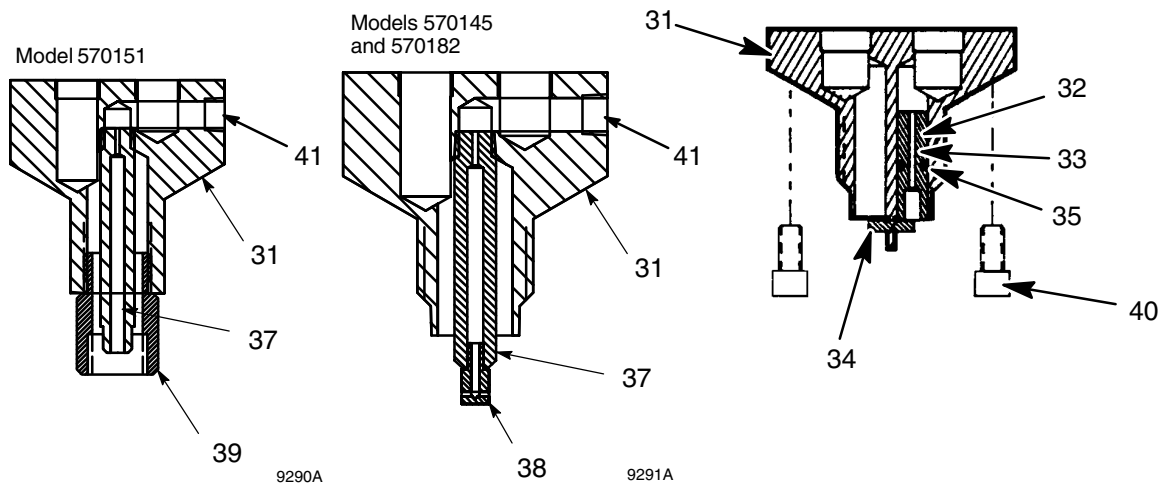

Fig. 6
1. Lubricate the shaft o-rings (4) and the bearings (5) with grease supplied in the repair kit. Insert o-rings into the air cylinder (1) and air cap (11) cavities. See Fig. 6.
2. Press the bearings (5) flush into the air cylinder housing and air cap, trapping the o-rings (4).
3. Lubricate and reassemble the piston assembly; piston (10), o-rings (9), dowel pin (7), nuts (8), and o-ring (6), and air cylinder shaft (3). Tighten nuts (8) to 15–20 in-lb (1.7–2.2 N•m). The shafts (3) should hang with some play to be self-aligning in the bearing.
4. Lubricate the air cylinder (1) ID with the grease supplied. Push the piston (10) assembly into the air cylinder.
5. Insert “C” clip (12). Orient clip opening in front of air passage way.
6. Lube and assemble an o-ring (16) onto cap (11). Push cap (11) straight into housing (1).
7. Insert outside “C” clip (12).
8. Orient the air inlet manifold (2) (if used) as shown. Match the gasket openings to the air ports.